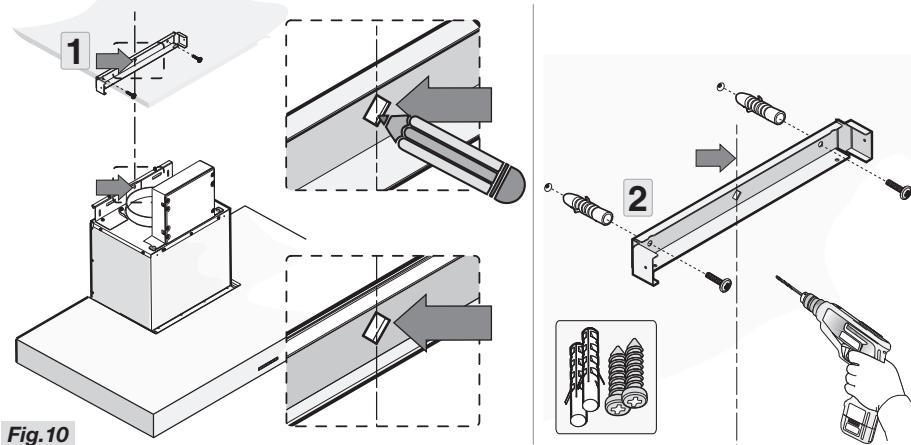

Fig.10
- Position the bracket referring to the sizes in Figure 1 and secure this with the supplied screws and plugs (Fig.10).